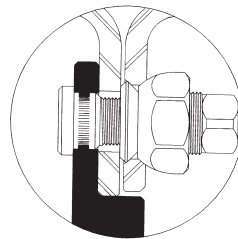

Figure 10
- Never use the hub piloted wheels which have straight holes with ball seat or spherical chamfer nuts. These parts are not engineered to work together and can cause premature wheel failure. On heavy truck dual wheels, this mismatch would not allow the inner cap nut to fit into the inner wheel, causing the inner cap nut to interfere with the outer wheel (See Figure 10). This could cause premature cracking and failure of the outer dual wheel.